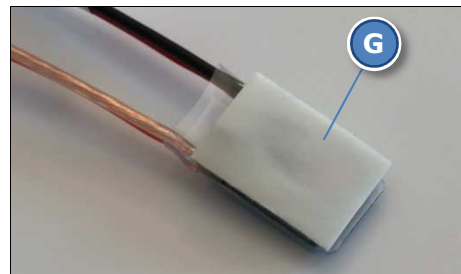
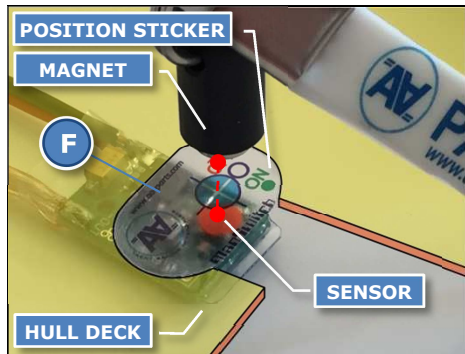

Fig. 05
Fig. 06
**i** Note: In Fig. 06, 07 and 08 digital magnetic switch MagSwitch® is represented, for clarity, without the double-sided foam tape [G Fig. 05].